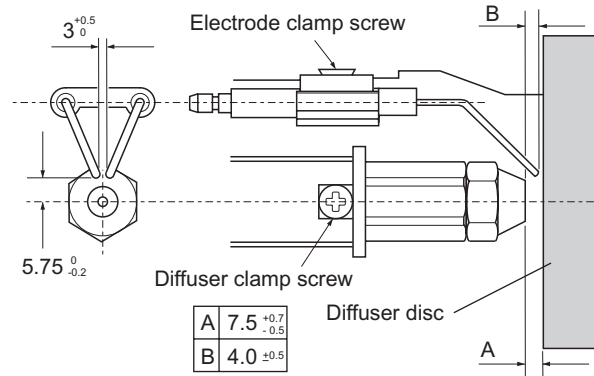

Fig. 29
- 3 **Check the electrode and diffuser settings** - Fig. 29
To adjust the diffuser disc: Loosen the diffuser clamp screw and slide the disc along the nozzle holder to achieve the gap 'A' in Fig. 29, tighten the screw.
To adjust the electrodes: Loosen the electrode clamp screw and move the electrode unit to achieve the gap 'B' in Fig. 29, tighten the screw.